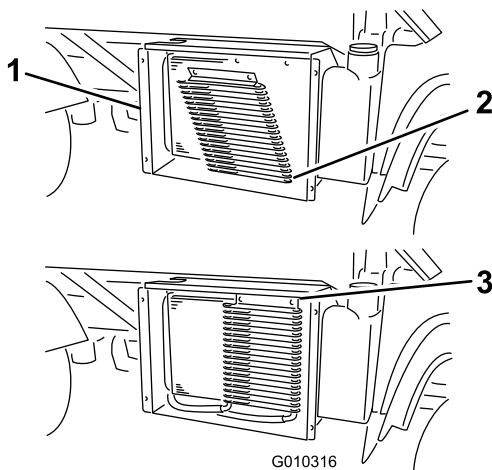

Figure 57
3. If so equipped, rotate the latches and pivot the oil cooler away from the radiator (Figure 57).